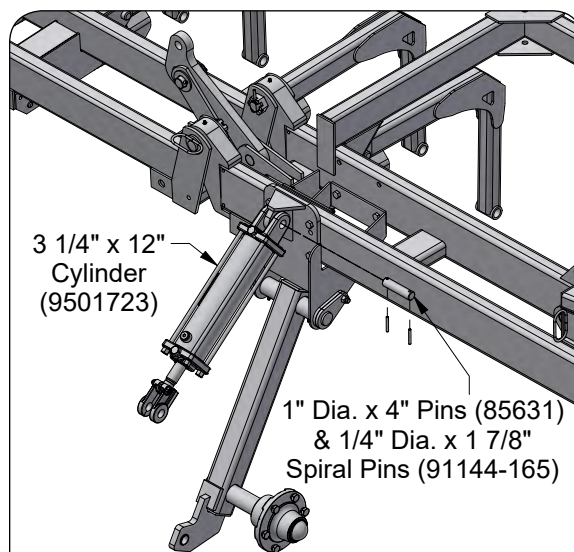

FIG. 2-33
3. With the ports facing out, secure base end of the 3 1/4" x 12" cylinders (9501723) to the wing assemblies and the rod end of cylinders to the wing wheel end using 1" Dia. x 4" pins (85631) and 1/4" Dia. x 1 7/8" spiral pins (91144-165) as shown in FIG. 2-33. Before installing the rod end cylinder pin, see "Purging a Hydraulic System", in this section.